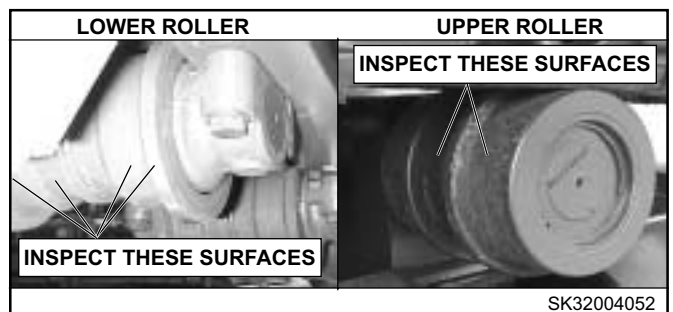

FIGURE 4.19D
- a. Inspect rollers for excessive wear and damage. See Figure 4.19D.